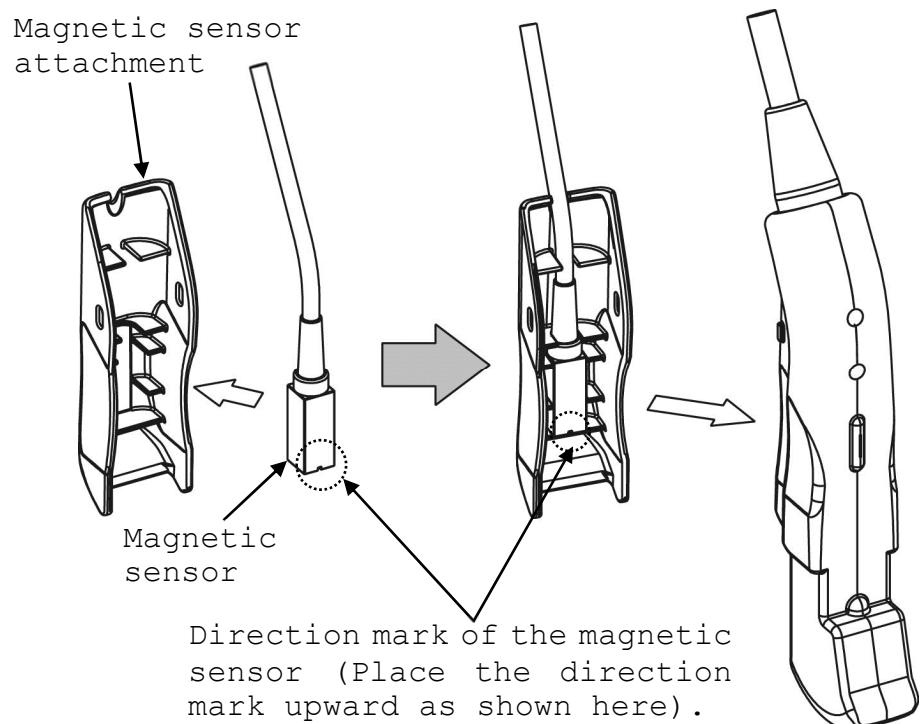

Fig. 7 How to attach the Magnetic Sensor Attachment
- 1) Attach the Magnetic sensor into the attachment with the correct direction as shown in Fig. 7.